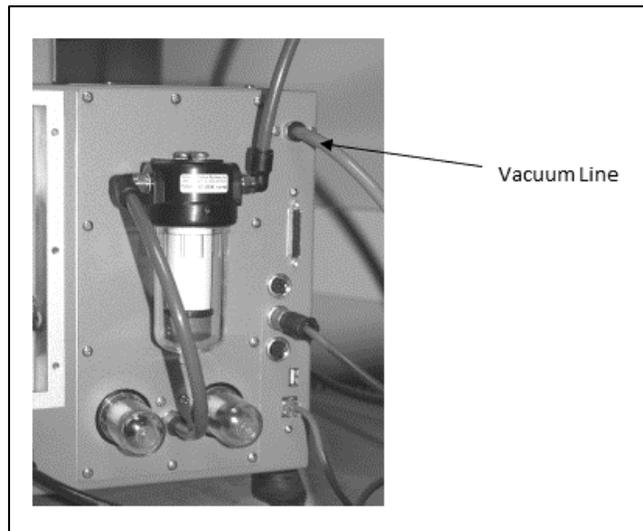

Figure AR-11. Back of TEOM
18. Request the operator to remove the main vacuum line (pump) connected to the pump from the back of the unit (Figure AR-11) prior to selecting the Next > button.